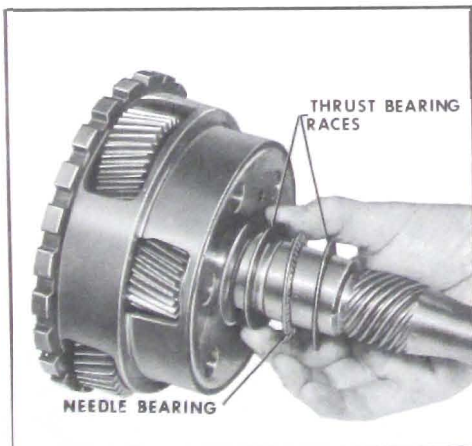

Figure 5-298
1. Install thrust bearing race with a lip, needle bearing, and a second plain thrust bearing race to the rear face of the planetary gear set. Retain with grease. See Figure 5-298.